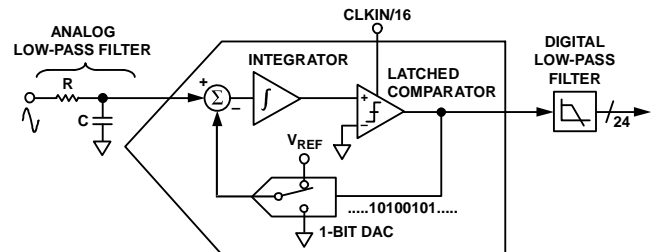
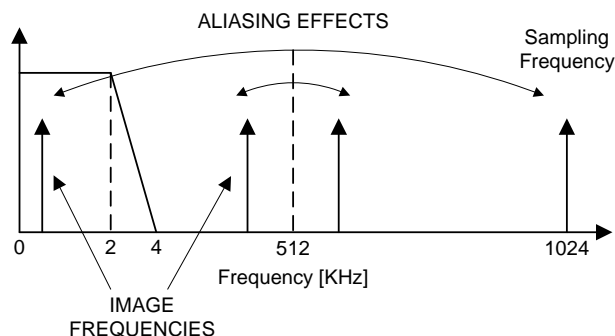

Figure 12. First-Order Σ - Δ ADC
Figure 14. Aliasing effects at ADE7858
For simplicity, the block diagram in Figure 12 shows a first-order Σ - Δ ADC. The converter is made up of the Σ - Δ modulator and the digital low-pass filter.
Figure 12 also shows an analog low-pass filter (RC) on the input to the ADC. This filter is placed outside the ADE7858 and its role is to prevent aliasing. Aliasing is an artifact of all sampled systems and is illustrated in Figure 14. Aliasing means that frequency components in the input signal to the ADC, which are higher than half the sampling rate of the ADC, appear in the sampled signal at a frequency below half the sampling rate. Frequency components (arrows shown in black) above half the sampling frequency (also known as the Nyquist frequency, i.e., 512 kHz) are imaged or folded back down below 512 kHz. This happens with all ADCs regardless of the architecture. In the example shown, only frequencies near the sampling frequency, i.e., 1.024 MHz, move into the band of interest for metering, i.e., 40 Hz to 2 kHz. To attenuate the high frequency (near 1.024 MHz) noise and prevent the distortion of the band of interest, a LPF (low-pass filter) has to be introduced. For conventional current sensors, it is recommended to use one RC filter with a corner frequency of 5 KHz in order for the